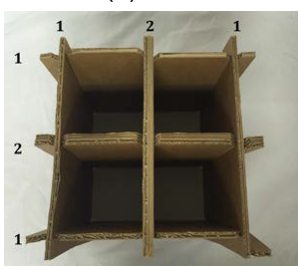

Figure 1
1. Fold in bottom flaps marked "FOLD THIS FLAP FIRST" first. Fold over opposite two flaps and seal center seam with two (2) 26" strip of 3M #375, clear tape, overlapping by 1" to make a total of 3" wide. Extend tape beyond each edge by at least 3" (use marked tape lines as guide).
3. Assemble insert as shown in figure 1 and place insert assembly into outer box.